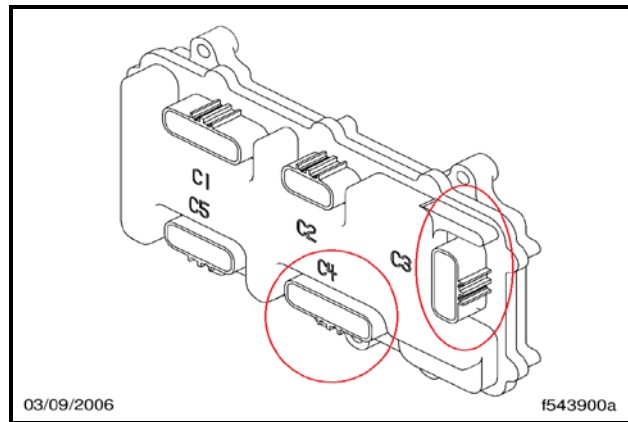

Figure 1
4. Locate connection port C4 on the Chassis Module (Figure 1).
6. Locate connection port C3 on the Chassis Module (Figure 1).